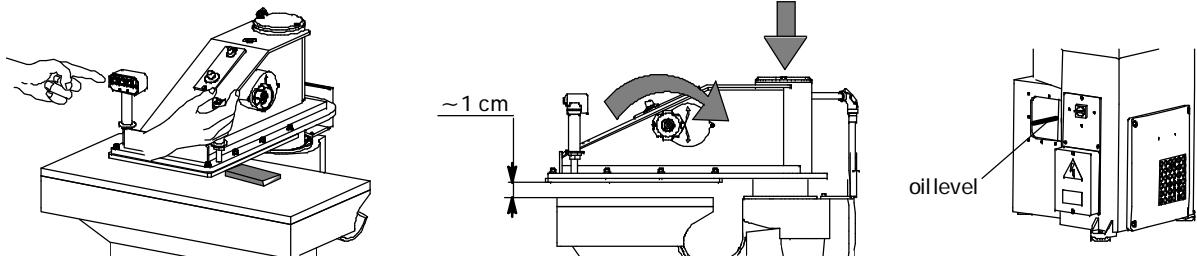

Fig. 9
- Place a wooden piece or another resistant spacer 2 cm thick between the cutting board and the turning arm and run the machine for a few minutes by pressing simultaneously the push-button on the right handle and one of the three push-buttons on the left handle. Carry out this operation in order to exhaust all the air from the cylinder pipes. Remove the spacer and being sure that nothing is on the working surface, slowly turn the hand-wheel clockwise till the arm is 1 cm from the cutting table (Fig. 9). At this point check the oil level in the tank and if necessary re-fill it, till reaching the maximum level red line (right Fig. 9). Only in this way you will be sure that there is the exact quantity of oil in the tank.